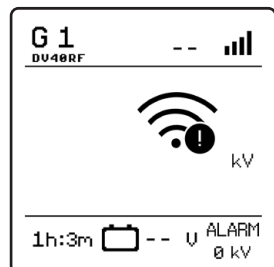

Fig. 12
- **Signal loss (Fig. 12)**: Dashes will be displayed instead of the values of the energiser, the signal level icon will flash and the alarm will sound if it is activated (see Section 8.2).